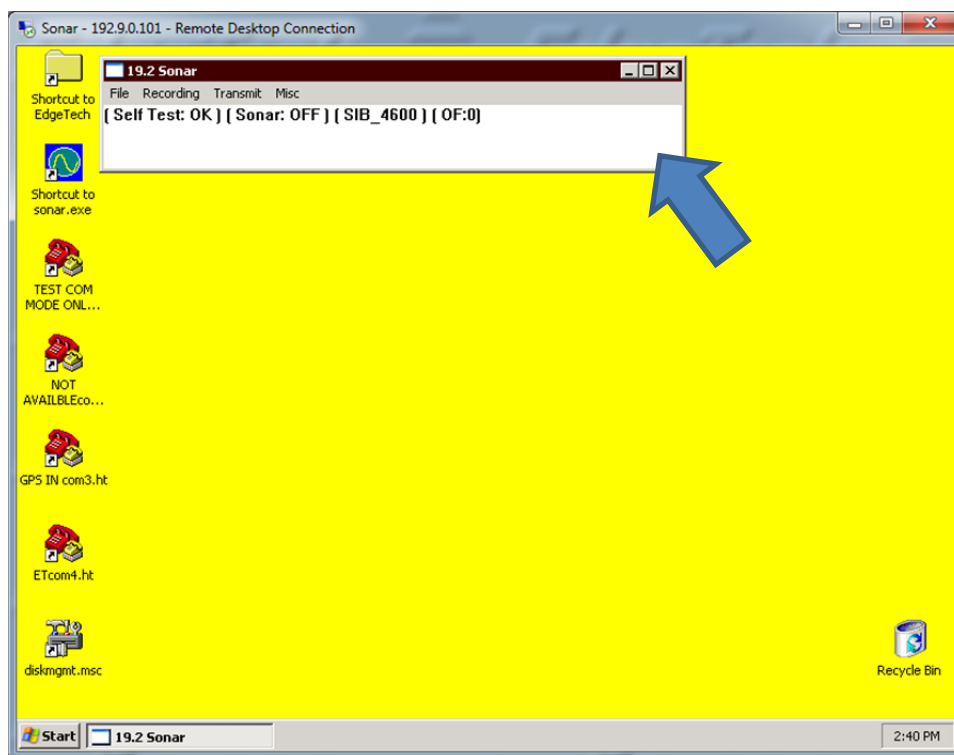

Fig. 1 – Sonar Remote Desktop Application, Main Screen
2. Turn on the 4600 Sonar Head and run the Remote Desktop Application, named Sonar. The main screen as in Fig. 1 should appear.